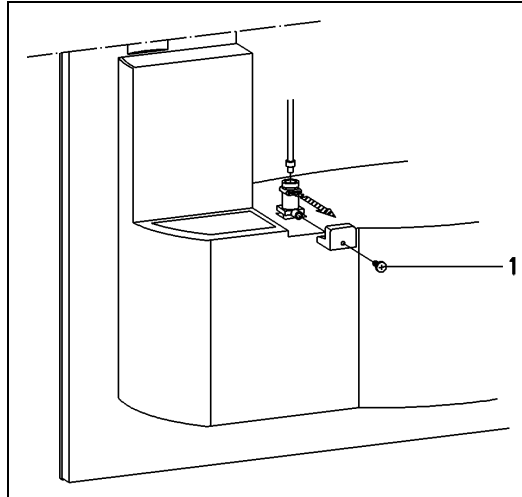

Figure 5-4: Hot-Water Dispenser Removal
5. Remove the dispenser retaining screw; refer to Figure 5-4, Item 1.